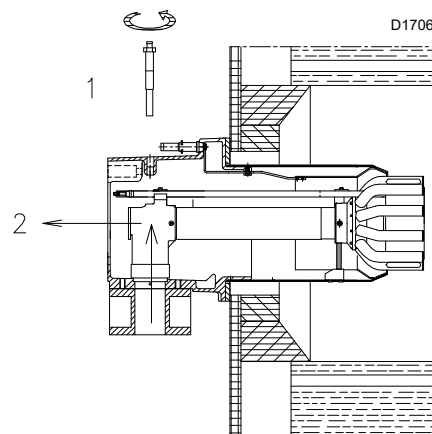

Fig. 12
- remove the screw 1)(Fig. 12)
- take out the inner part 2)(Fig. 12) of the head and then calibrate them.
At this point of the installation, the combustion head is fixed to the boiler as shown in Fig. 12. It is therefore especially easy to adjust, and this adjustment depends only on the maximum output of the burner.